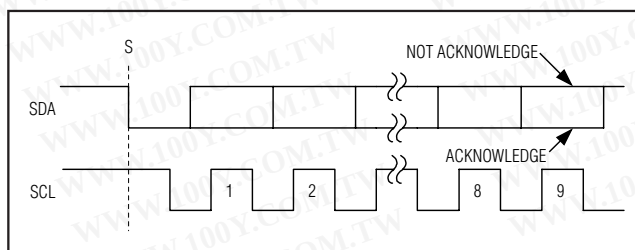

Figure 6. Acknowledge Bits
Data transfers are acknowledged with an acknowledge bit (A) or a not-acknowledge bit ($\bar{A}$). Both the master and the MAX11606–MAX11611 (slave) generate acknowledge bits. To generate an acknowledge, the receiving device must pull SDA low before the rising edge of the acknowledge-related clock pulse (ninth pulse) and keep it low during the high period of the clock pulse (Figure 6). To generate a not-acknowledge, the receiver allows SDA to be pulled high before the rising edge of the acknowledge-related clock pulse and leaves SDA high during the high period of the clock pulse. Monitoring the acknowledge bits allows for detection of unsuccessful data transfers. An unsuccessful data transfer happens if a receiving device is busy or if a system fault has occurred. In the event of an unsuccessful data transfer, the bus master should reattempt communication at a later time.